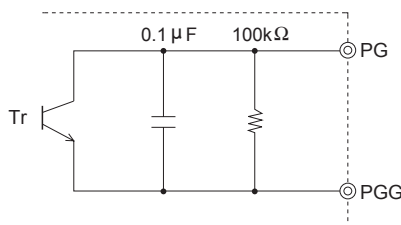

Fig.5.1 Internal circuit of PG
- Table 5.2, see Fig. 5.1 the internal structure circuit explaining the operation of the PG alarm.